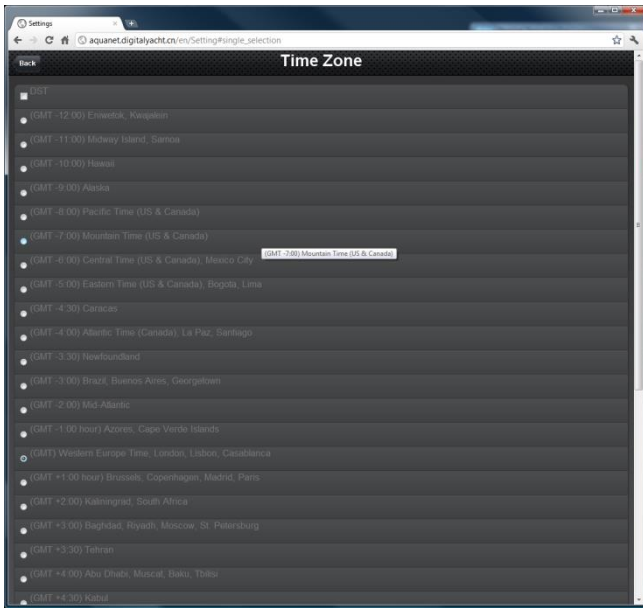
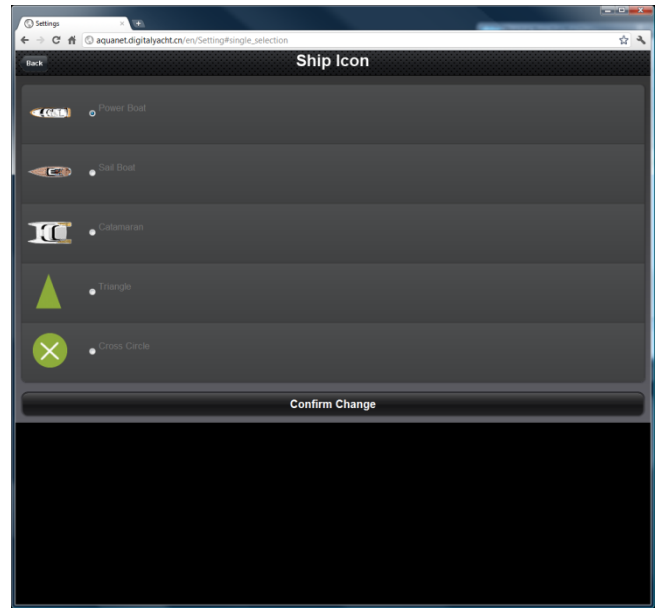

Figure 4
Figure 5
- To change a setting, simply click on the option to be changed and the available settings will be displayed. Two examples pages are shown below; Time Zone (Fig 4) and Boat Icon (Fig 5).
- Once you have changed a Setting, click on the Confirm Change button at the bottom of the page (see Fig 5), a confirmation pop-up will appear to confirm the setting has changed.